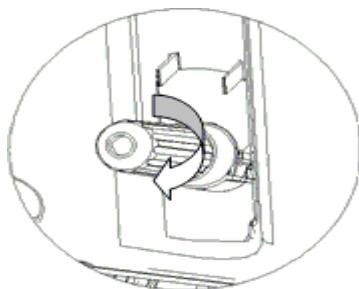

Figure 17
4. Loosen the CO2 bottle sheath (Show as figure 15), insert a 16gram CO2 cartridge in the sheath (Figure 16), and screw the sheath tightly until you will hear a “Click”(Figure 17), which indicates that the cartridge seal has been pierced and the CO2 gas can flow into the keg freely. Make us the bottle sheath is fixed tightly to avoid the CO2 leakage. Then put CO2 bottle sheath into the top cover.